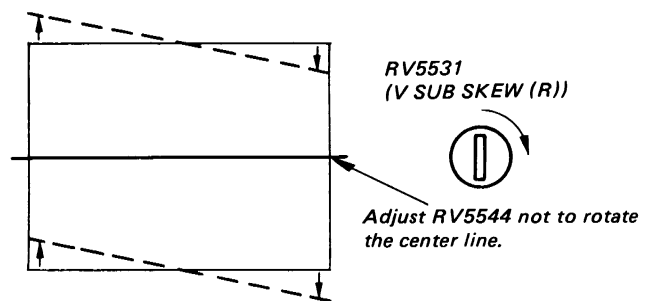

Fig. 3-20
- (7) Adjust RV5544 (SUB KEYS ADJ) so that the red horizontal center line does not rotate to turn RV5531 (V SUB SKEW (R)). (Fig. 3-20)